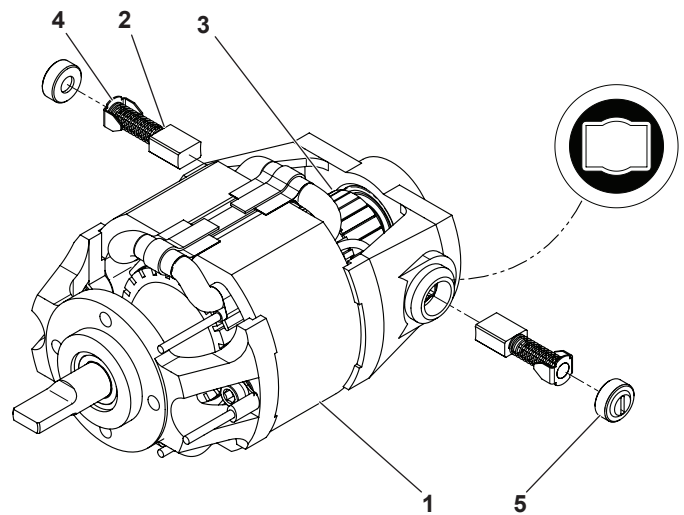

Figure 4-9: Weld Motor - Brush Replacement
2. The brushes (**Figure 4-9: 2**) are located at the end of the Weld Motor and are held in place against the rotor (**Figure 4-9: 3**) by a small compression spring attached to the brush. Brushes are secured in the motor by a screw cap (**Figure 4-9: 5**).